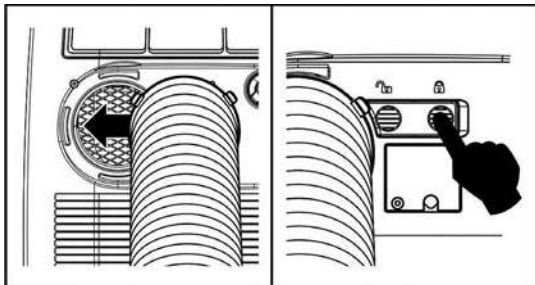
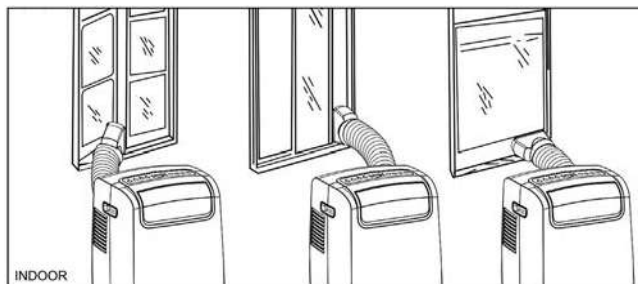

Fig. 3 & 4
Fig. 5
- 2/ Slide the other exhausted connector (#13) to the air outlet (#7) on the rear of the unit and push the rocker switch to fix the assembly firmly. (Fig 3 &4) Extend hose (#12) to desired length and position the exhausted nozzle (#15) through an open window as shown on fig.5.